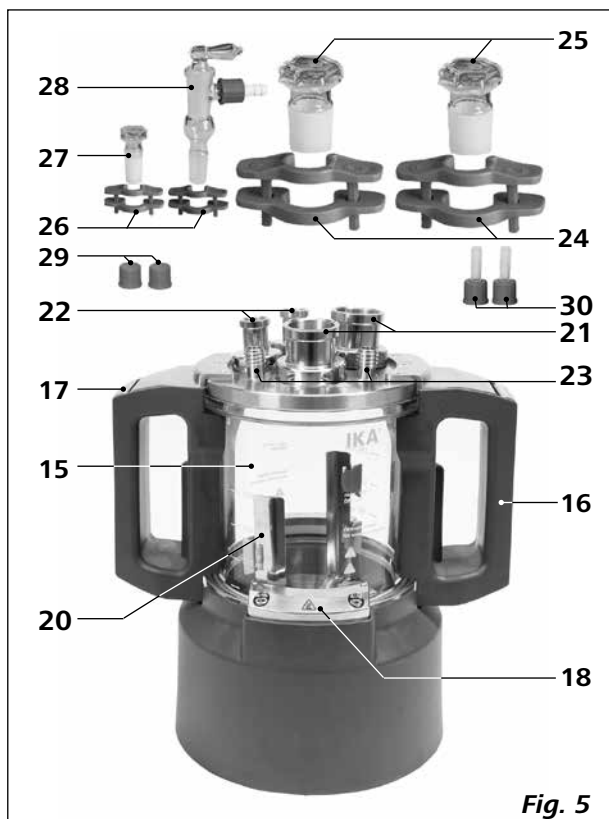

Fig. 5
- Reactor vessel **LR 1000.3** (see Fig. 5)